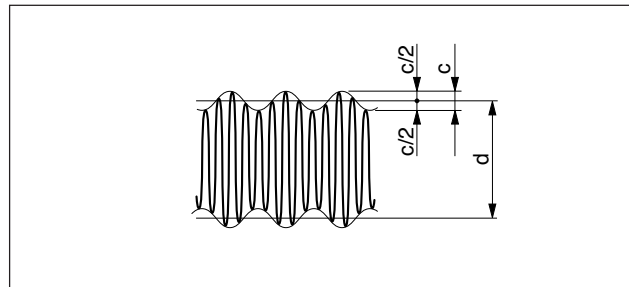

Fig. 5
- ① Insert the 8-pin DIN connector (male) into the display unit and then turn on the display unit. See the LT20A Instruction Manual for the power- on method.
- ② Connect an oscilloscope probe to the PM terminal on the preamplifier board and an earth clip to the connector receptacle screw.
- ③ Set the oscilloscope to 0.5 V/div, 5 ms/div and reset the (TIME/div) while moving the scale at a speed of 1 to 10 m/min so that the waveform shown in Fig. 5 can be observed.